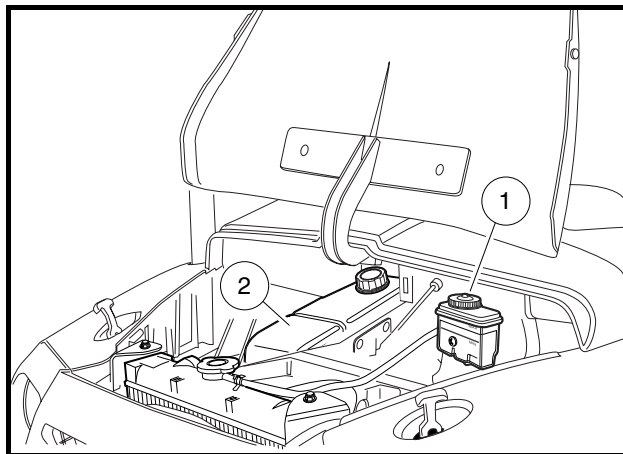

Figure 17 Brake Fluid and Coolant Access (diesel vehicle shown)
The brake fluid reservoir (1) is located under the hood (Figure 17). Raise the hood to check the brake fluid level.